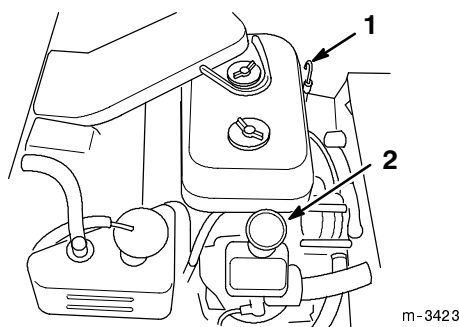

Figure 5
3. Clean around the oil dipstick (Fig. 5) so dirt cannot fall into the dipstick tube and damage the engine.
5. Slide the oil dipstick fully into the dipstick tube (Fig. 5).